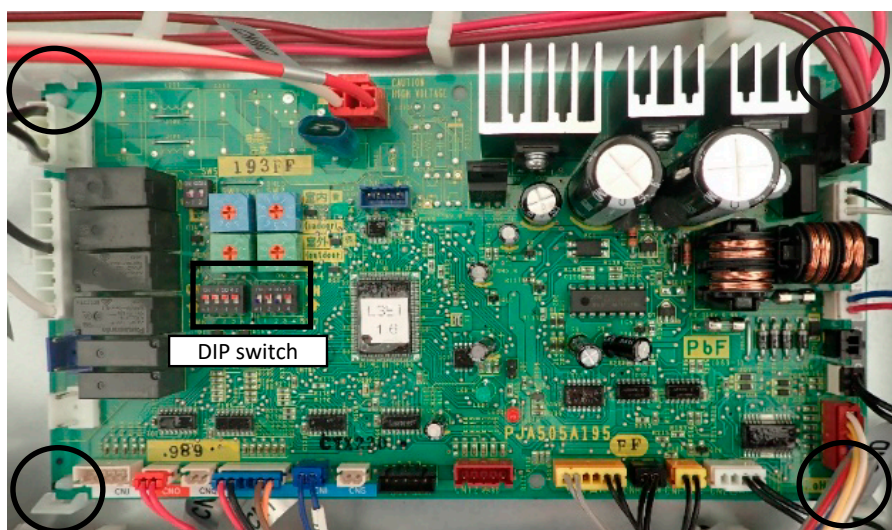

Fig6. Control PCB
There're 4 locking supports on the PCB. (○ mark, Fig.6)
- ① Set the DIP switches of the new PCB to match the PCB before replacement. (□ mark, Fig.6)
- ② Attach new PCB to locking supports.
- ③ Reconnect all connectors as before.